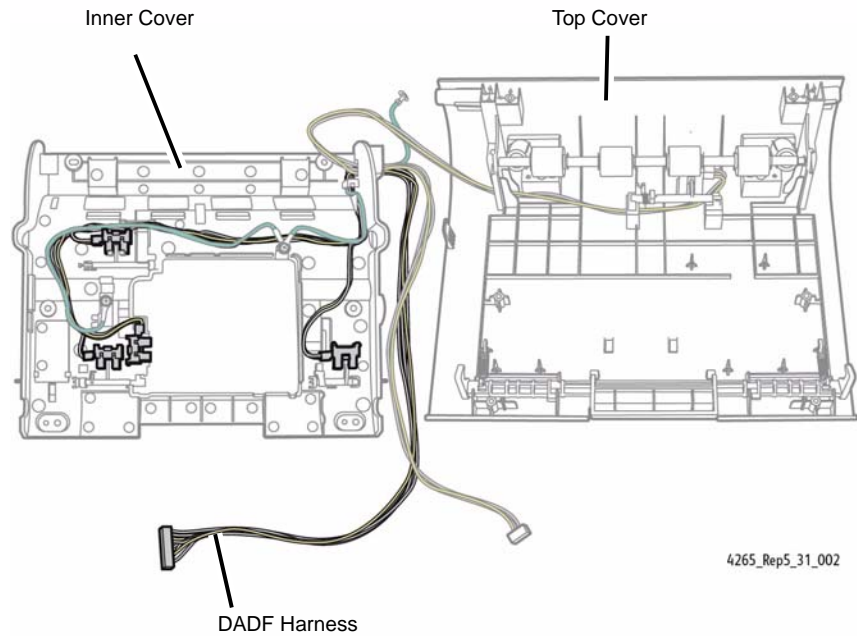

Figure 2 Locating the DADF Harness
- Set the Top Cover and the Inner Cover on a clean table top as shown, and locate the DADF Harness (Figure 2).